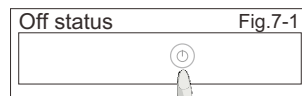

Fig.7-1
(1)In the off status, press the ON/OFF button 3 seconds. (Fig.7-1)
(2)TGC indicator will extinguish. The unit is back to off status. (Fig.7-1)